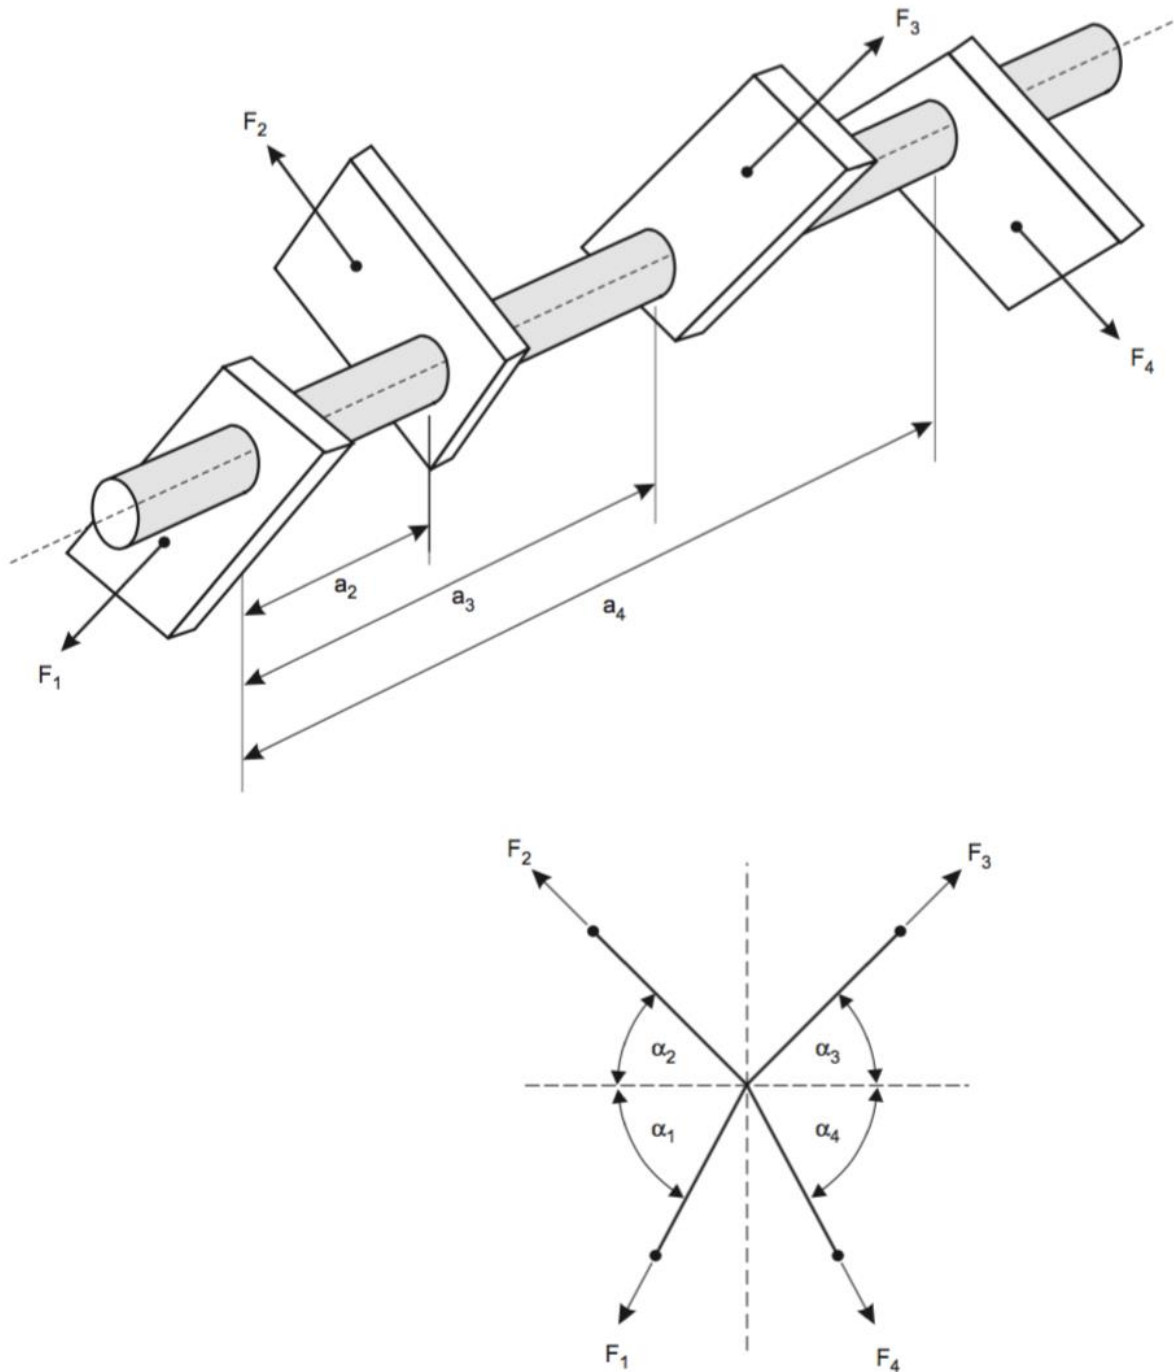

Figure 7: Nomenclature for Arbitrary Four-Mass System
- Remove the Perspex dome and set up the four rectangular blocks as shown in figure 7